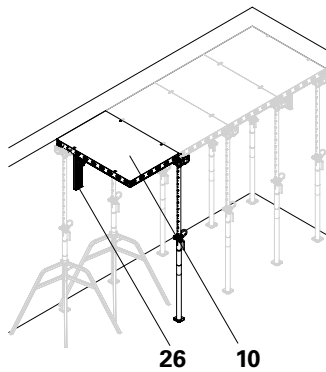

Fig. D2.08
4. Secure every third DP panel with the DUO 82 wall holder (**26**)! (Fig. D2.08)
- The slab formwork is set up row by row in the transverse direction (Fig. D2.08)